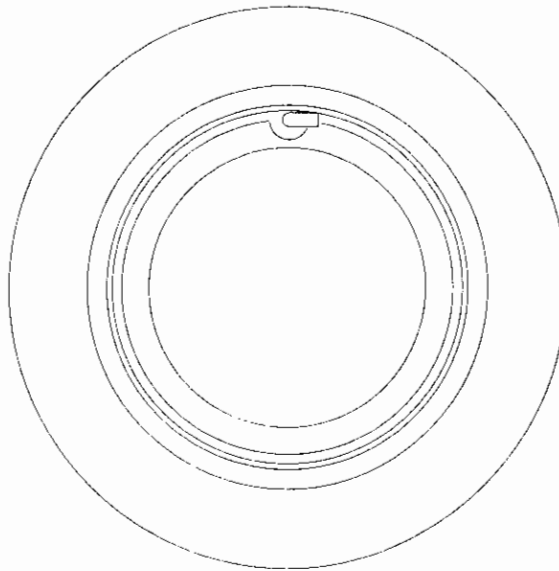

Figure 5-4. Continuity Clip Installation
- (16) Soak new bumper (1) in hot water (160 - 180° F (71 - 82° C)) until soft. While still soft and pliable, press bumper onto collar (3).
- (17) Apply teflon tape on threads of plugs (18) and install plugs into body (6).
- (18) Install continuity clip (28). Be sure clip is laying on lip as shown in figure 5-4.